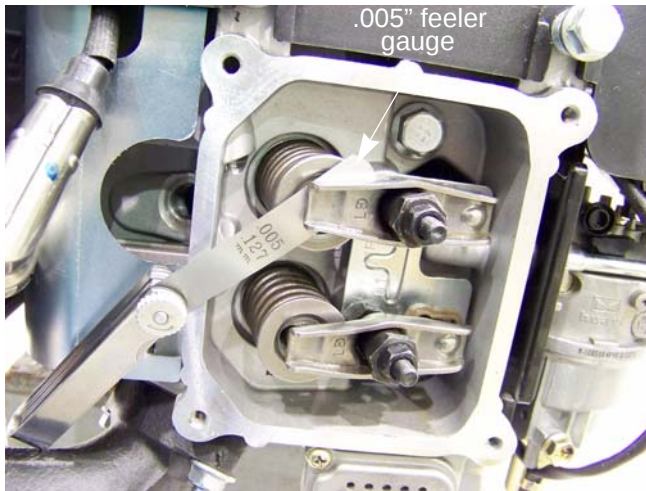

Figure 1.12
7. Intake valve lash (top valve) should be 0.004" - 0.006" (0.10 - 0.15mm). See Figure 1.12.